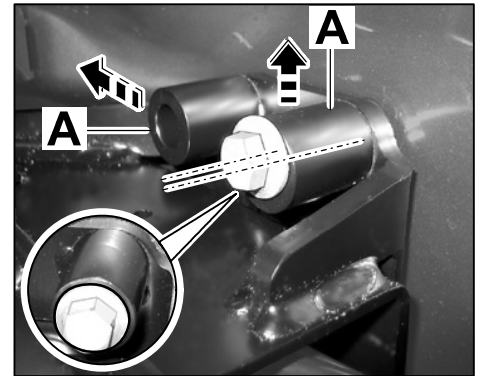

Figure 6
2.1.2 Align bolt guides for the trailer hitch (⇒ *Figure 6 -A-*) symmetrically with respect to the eight bolt heads M12 x 1.5 x 100 (⇒ *Figure 6 -Pfeile-*).